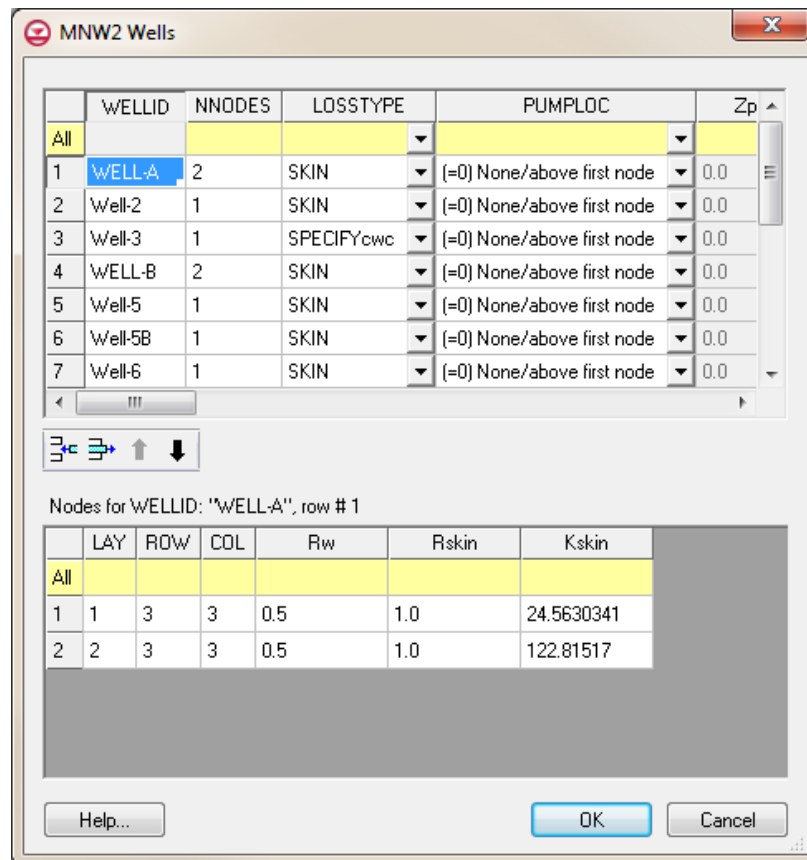

Figure 6 MNW2 Wells dialog
- Click **Wells...** to open the *MNW2 Wells* dialog (Figure 6).